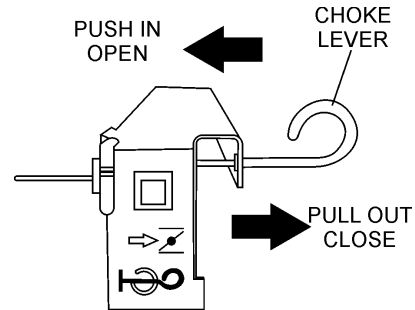

Figure 14. Choke Lever
2. Place the choke lever (Figure 14) in the **CLOSED** position if starting a cold engine.
3. Place the choke lever (Figure 14) in the **OPEN** position if starting a warm engine or the temperature is warm.
- If the engine has started, slowly return the choke lever (Figure 14) to the **OPEN** position. If the engine has not started repeat steps 1 through 6.